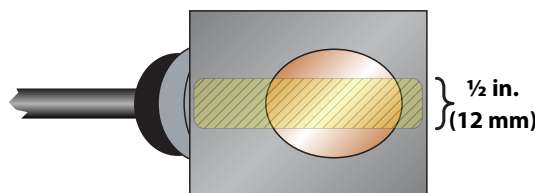

Figure 21: Application of couplant
For DTTR, DTTN, DTTL and DTTH transducers, place a single bead of couplant, approximately 1/2 inch (12 mm) thick, on the flat face of the transducer. See *Figure 21*. Generally, a silicone-based grease is used as an acoustic couplant, but any good quality grease-like substance that is rated to not flow at the operating temperature of the pipe is acceptable. For pipe surface temperature over 130° F (55° C), use Sonotemp® (P.N. D002-2011-010).
5. For DTTR, DTTN, DTTL and DTTT transducers, place a single bead of couplant, approximately 1/2 inch (12 mm) thick, on the flat face of the transducer. See Figure 21. Generally, a silicone-based grease is used as an acoustic couplant, but any good quality grease-like substance that is rated to not flow at the operating temperature of the pipe is acceptable.
See *Figure 21* on page 22.